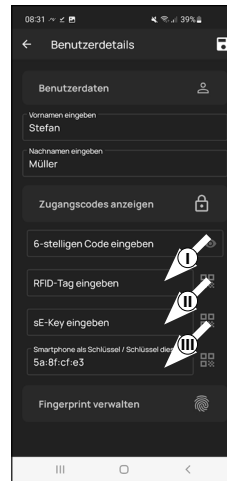

Fig. 4
- 6 A radio key *ENTRY sE-Key 7713* (optionally available) can be stored at this point (II) (Fig. 4). Instructions on how this is setup can be found in the radio key instructions.
! **Note:** The lock opening by smartphone is automatically stored in the administrator's user profile (III) (Fig. 4). A different smartphone as the electronic key can be stored in this field for additional users. An instructions on this subject can be found in the master operating instructions on our website (see link on the title page).